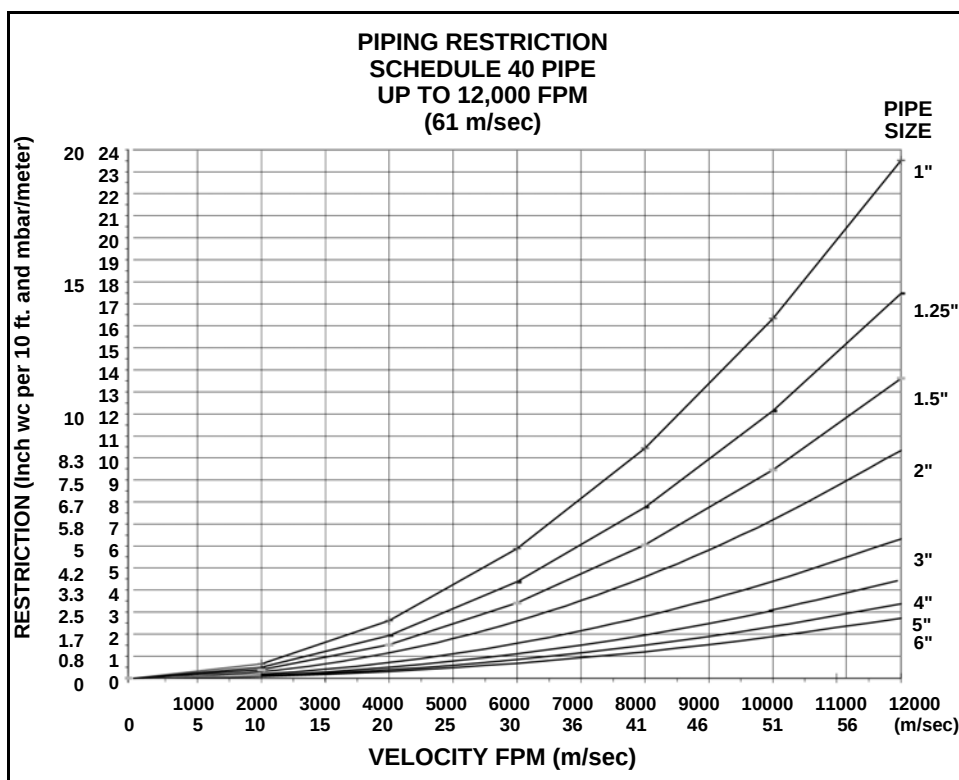

Figure 8-18 Restriction Vs. Velocity for Pipe Diameters up to 6"
5. Determine pressure loss P_L per 10 ft or 1 meter of pipe for each velocity and pipe size from Figure 8-18.
4. Calculate fuel velocity (V) based on the supply flow F_{sup} for each pipe size used: $V \text{ (FPM)} = \frac{91.56 \text{ ft}^3/\text{min}}{0.0233 \text{ (ft}^2\text{)}} = 3,930 \text{ FPM}$	Equation 4 Table 8-2
5. Determine pressure loss per 10 feet of pipe: Pressure loss in 2" pipe @ 3,930 ft/min $P_{L2} = 1.1" \text{ wc}/10 \text{ ft}$	Figure 8-18